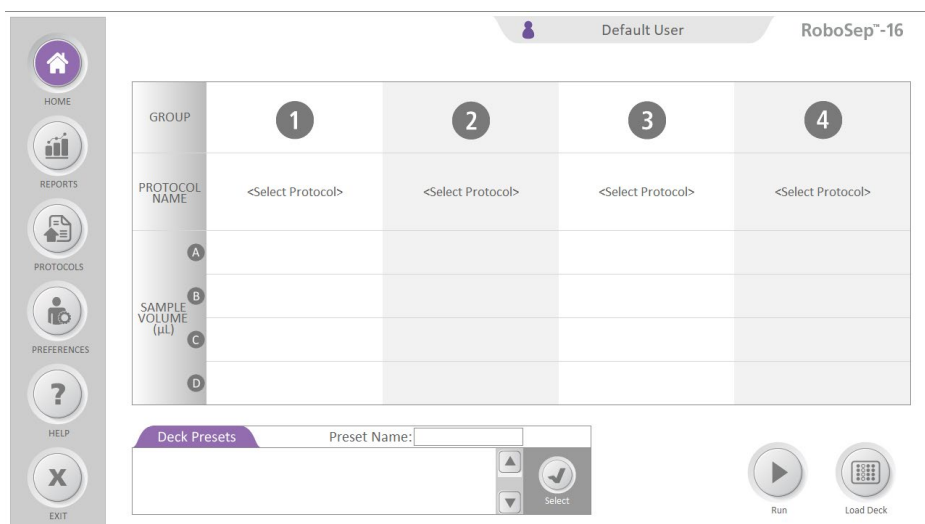

Figure 13. Home Screen
3. Start the RoboSep™-16 application on the computer by double-clicking the desktop icon . The Home screen will appear (Figure 13).